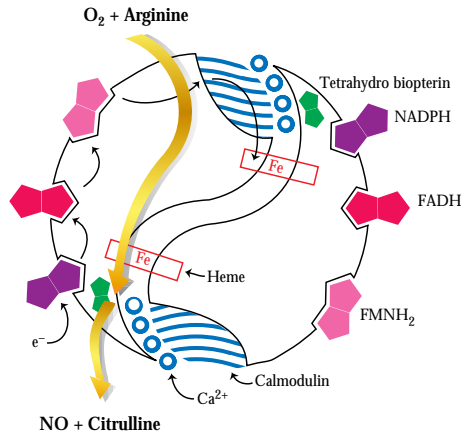

Figure 1. Nitric Oxide Synthesis
Nitric Oxide (NO) is synthesized in biological systems by the enzyme Nitric Oxide Synthase (NOS). NOS is a remarkably complex enzyme which acts on a pair of substrates (molecular oxygen and arginine) to produce two products (NO and citrulline). This process requires five essential cofactors (FMNH2, FADH, NADPH, calmodulin, and tetrahydrobiopterin) and two divalent cations (calcium and heme iron; see Figure 1 below). Three distinct isoforms of NOS have been identified, as detailed in Figure 2 (See below).